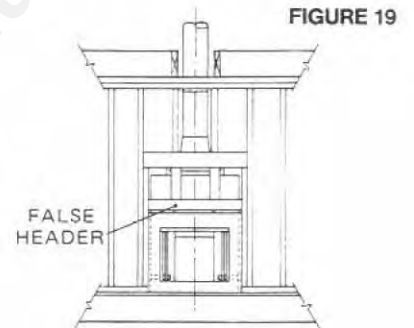

FIGURE 19
STEP 11 – COMPLETION OF FRAMING If fireplace was positioned after preliminary framing was completed, add false header to complete framing. (See Figure 19) Complete facing wall by positioning dry wall, paneling. (See Figure 8) Reference should be made to drawing (page 1) showing fireplace location relative to adjacent wall surfaces. Note first page precautions on clearances to combustible wall surfaces.